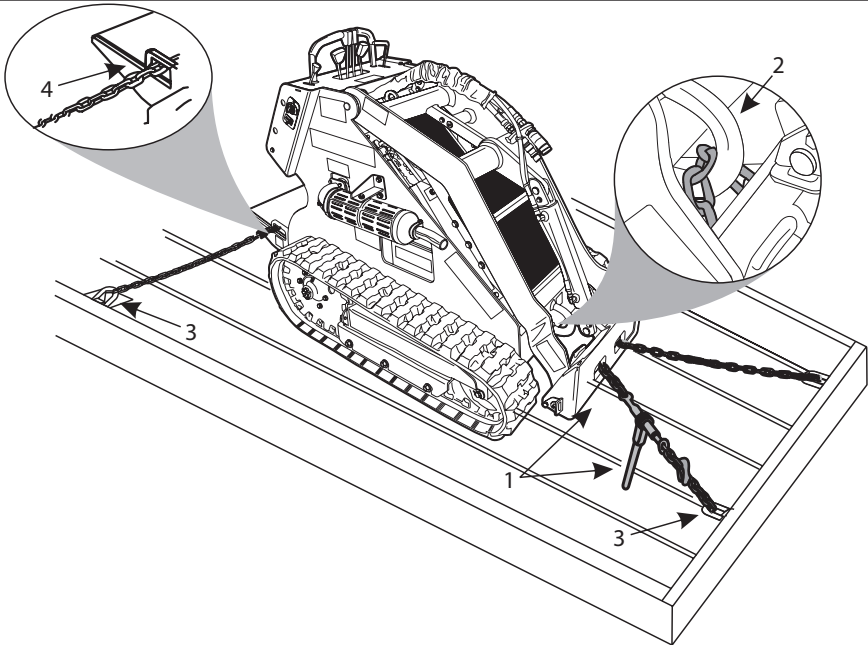

Figure 3-14 Travel Chains and Binders
5. Secure the unit to the transport vehicle with DOT (Department of Transportation) approved chains, binders in accordance to DOT guidelines. Make sure to use the appropriate tie-down locations (Items 3 and 4, **Figure 3-14**) on the machine and trailer.
When transporting the machine, make sure to use DOT approved chains and binders (Item 1, **Figure 3-14**) to secure the machine to the “D” rings (Item 2, **Figure 3-14**) on the trailer. NOTICE: It is recommended to secure the machine through the ring on the front of the machine (Item 2, **Figure 3-14**) and through the two rings on the Operator’s Platform (Item 4, **Figure 3-14**).